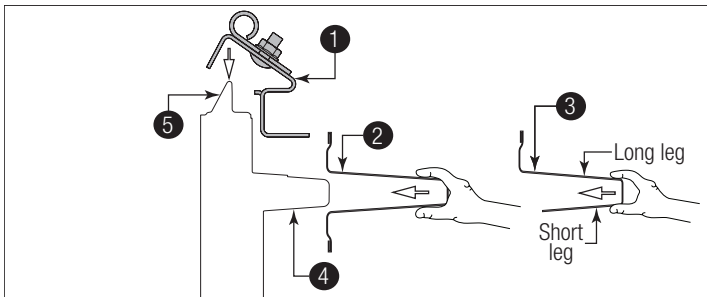
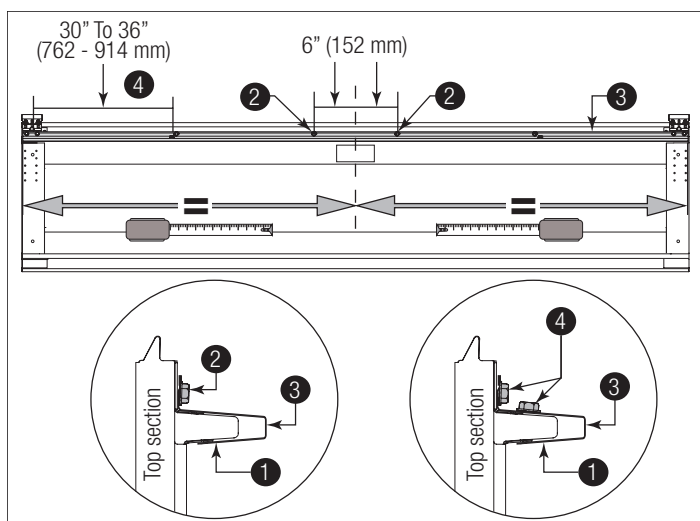

Figure 18, Left Side Shown
Figure 21, Left Side Shown
See Figure 18 through Figure 21 for the following steps.
IMPORTANT: When securing the asymmetrical strut ③ to the top section, it is recommended not to install any fasteners into the short leg ① of the asymmetrical strut. See Figure 21 for correct orientation.